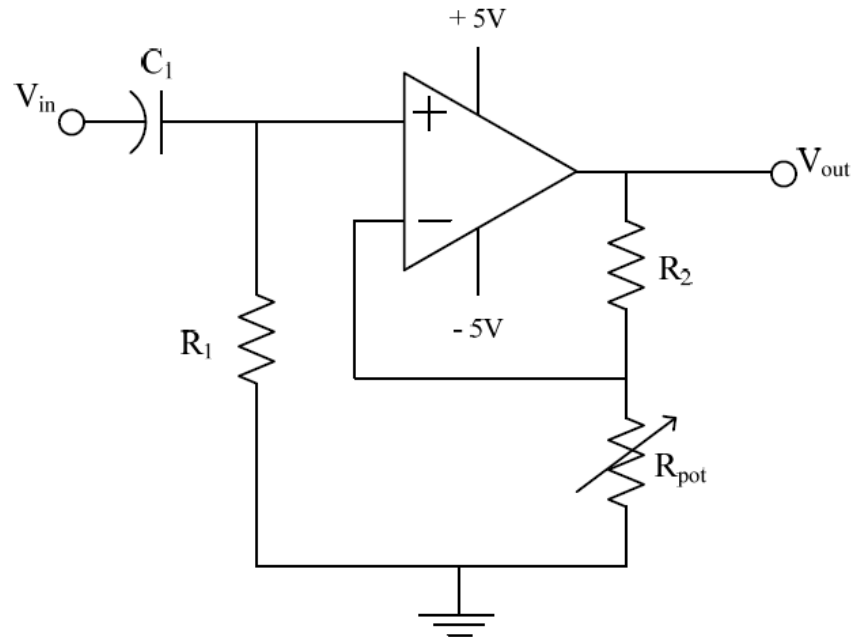

Figure 4 - Baseband amplifier schematic
Once the radio signal has been pre-amplified and demodulated, an amplifier circuit is used to provide gain to the resulting audio signal. To do this, a circuit like the one shown in *figure 4* can be used. The topology is based on a non-inverting amplifier and allows manual gain control through a potentiometer.
3. Derive the gain equation of the circuit shown in *figure 4*. Perform the analysis for  $C_1$  neglected, then when considered. How does  $C_1$  affect the gain of the circuit?
Assemble the amplifier circuit shown in *figure 4* and adjust the potentiometer so that the gain is 150V/V. Ensure that the amplitude is sufficiently small so that the amplifier operates within its linear region. You may have to use a voltage divider on the input signal to achieve that.